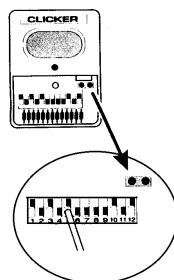
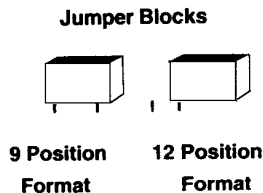

FIGURE 2
FIGURE 3
Remove the cover. Inside your new Clicker you will find a blue block of white switches (See Fig.2). These switches must match the switches on your current garage door or gate operator system.
If your present transmitter has twelve (12) code switches, make sure that the jumper block is on the 12 switch position. (See arrow in Fig. 2 and Fig. 3) If it is not, remove the jumper block and replace it using only one of the pins provided for connection. If your present transmitter has nine (9) code switches, make sure that the jumper plug is in the 9 switch position. Both connecting pins should be covered (See Fig. 3). Check to make sure that you have matched all 9 or 12 code switches to your present transmitter.